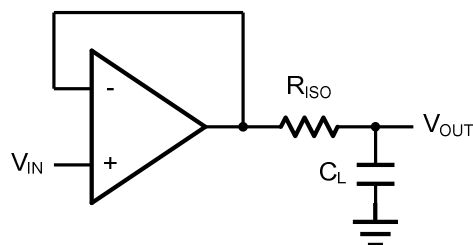
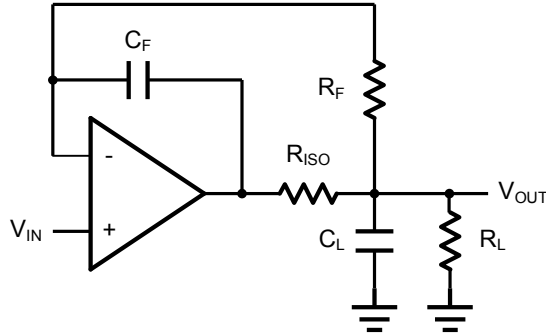

Figure 2. Indirectly Driving a Capacitive Load Using Isolation Resistor
Figure 3. Indirectly Driving a Capacitive Load with DC Accuracy
The TLVx330 family is optimized for bandwidth and speed, not for driving capacitive loads. Output capacitance will create a pole in the amplifier's feedback path, leading to excessive peaking and potential oscillation. If dealing with load capacitance is a requirement of the application, the two strategies to consider are (1) using a small resistor in series with the amplifier's output and the load capacitance and (2) reducing the bandwidth of the amplifier's feedback loop by increasing the overall noise gain. Figure 2. shows a unity gain follower using the series resistor strategy. The resistor isolates the output from the capacitance and, more importantly, creates a zero in the feedback path that compensates for the pole created by the output capacitance.
The circuit in Figure 3 is an improvement to the one in Figure 2. R_F provides the DC accuracy by feed-forward the V_{IN} to R_L . C_F